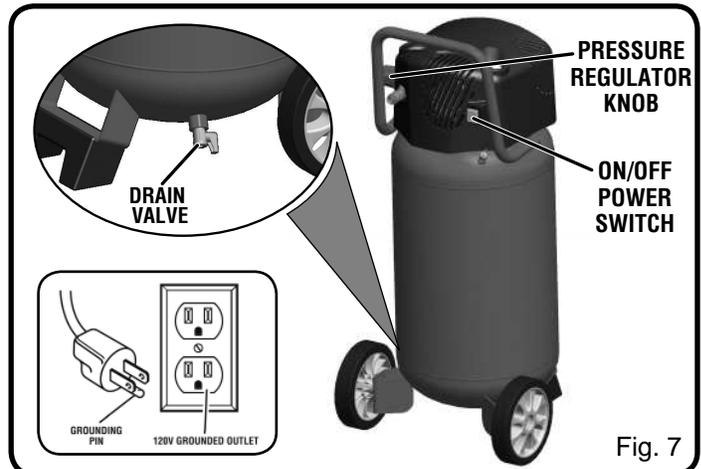

Fig. 7
See Figure 7 - 8.
- Ensure tank drain valve is closed (see Fig. 7).
- Ensure ON/OFF power switch is in the **OFF (O)** position and air compressor is unplugged (see Fig. 7).
- Ensure Pressure Regulator Knob is turned fully counterclockwise (see Fig. 7).